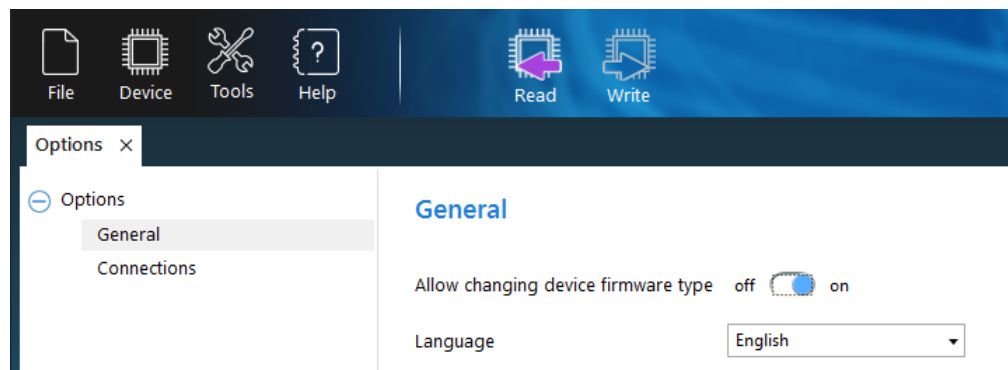

Figure 6: The device mode change is enabled
- a. On the **Tools** menu, click **Options**. In the right pane, make sure that the **Allow changing device firmware type** option is switched on (Figure 6).
- a. On the **Tools** menu, click **Options**. In the right pane, make sure that the **Allow changing device firmware type** option is switched on (Figure 6, page 16).